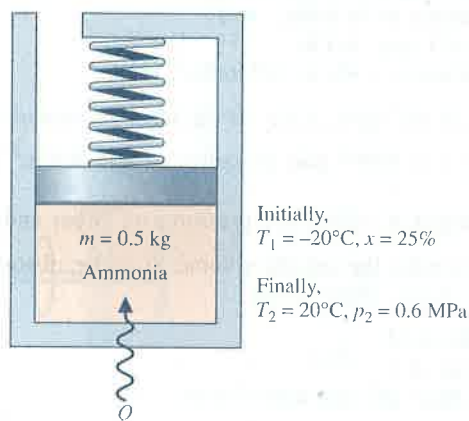

Fig. P3.85
3.85 As shown in Fig. P3.85, 0.5 kg of ammonia is contained in a piston–cylinder assembly, initially at $T_1 = -20^\circ\text{C}$ and a quality of 25%. As the ammonia is slowly heated to a final state, where $T_2 = 20^\circ\text{C}$, $p_2 = 0.6 \text{ MPa}$, its pressure varies linearly with specific volume. There are no significant kinetic and potential energy effects. For the ammonia, (a) show the process on a sketch of the p – v diagram and (b) evaluate the work and heat transfer, each in kJ.